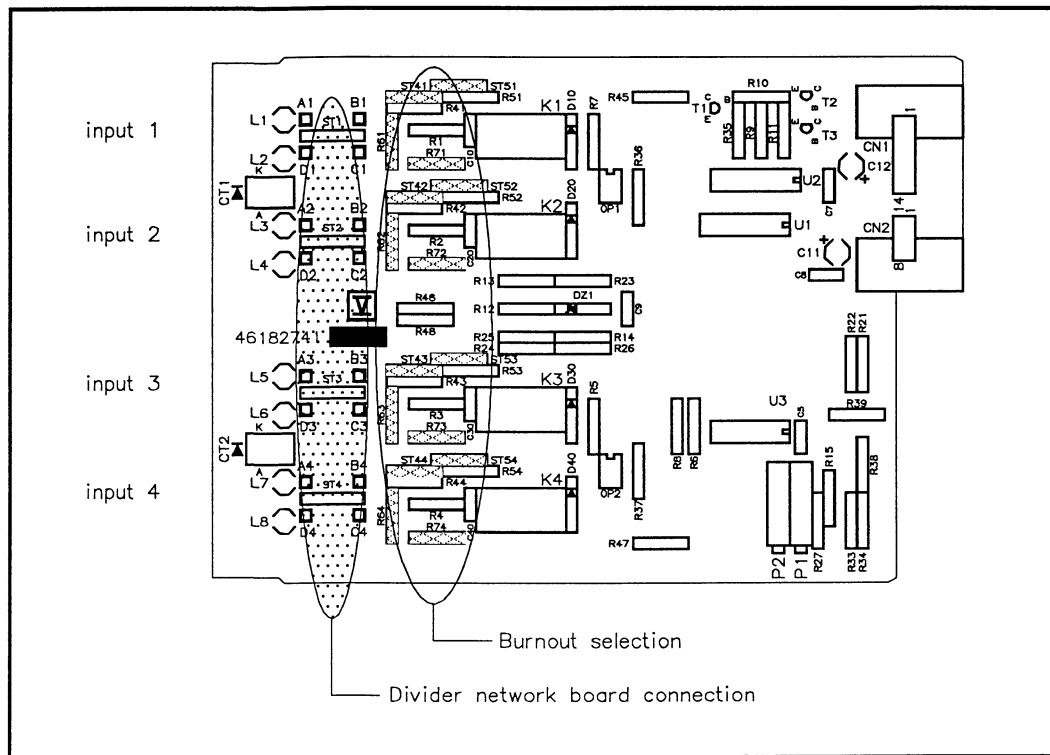

Figure 2-14 Analog input card (T/C, mA, mV, Volt)
5. Insert the divider network, see table 2-5 for reference, on the analog input card, over the desired input. Use the references (A,B,C,D) for the orientation and solder the divider card. See Figures 2-14 and 2-17.